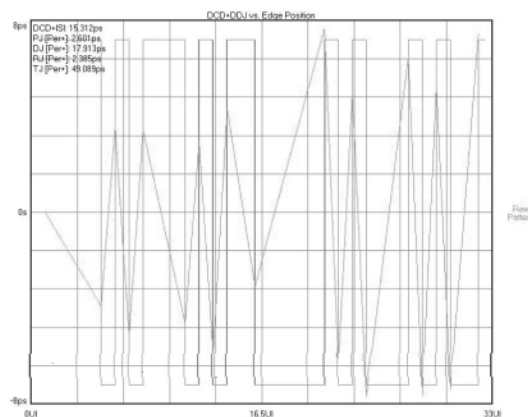

Figure 4b. TIA Output of the SY55859L
10. *Use the SY55859L Evaluation Board:* Connect the signal source to SY55859L evaluation board “DA0” and “/DA0,” as before. Connect the SY55859L evaluation board J3, labeled “QA0” to TIA CH1. Connect a 50Ω termination to SY55859L evaluation board J7, labeled “/QA0.” Perform an acquisition on the TIA again. You will get something like Figure 4b. Record the new DJ number. The difference between this DJ value, and the DJ recorded in step 9, is the DJ of SY55859L evaluation board.